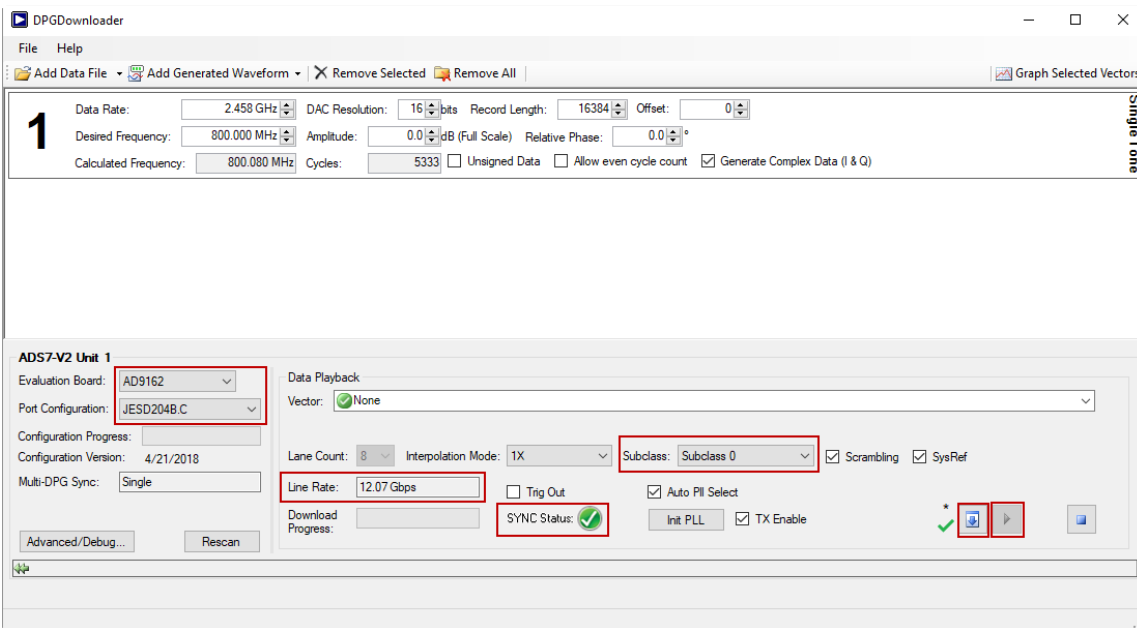
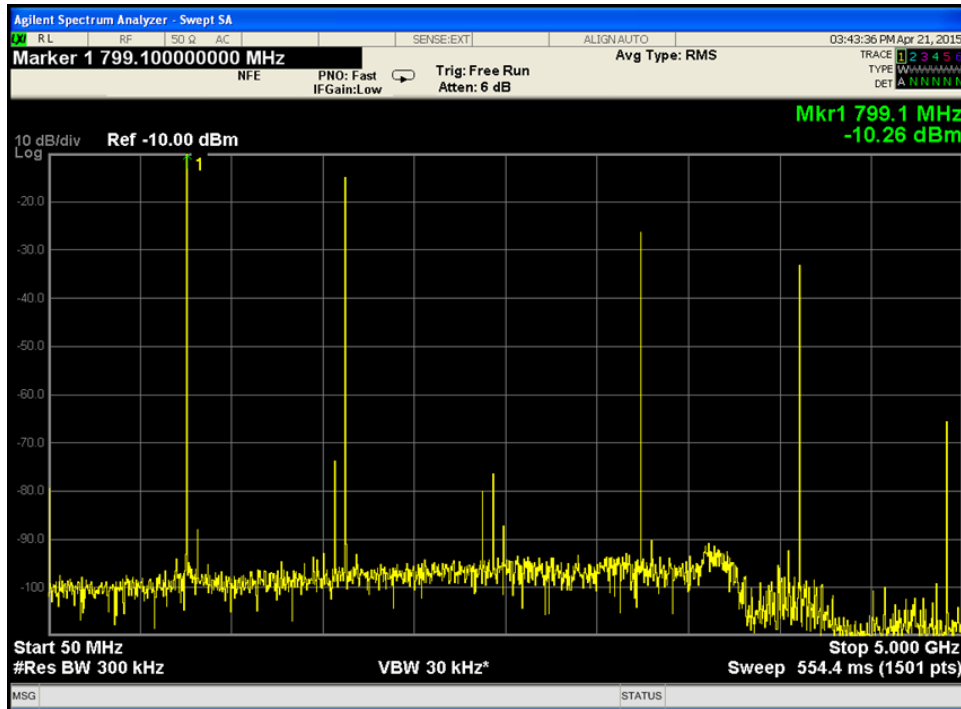

Figure 13. Download Single Tone and Play
Figure 14. Spectrum Analyzer Plot of DAC Output in JESD204B 8-Lane, 1x Mode, Showing Single Tone at 800 MHz
4. Report the line rate frequency from the AD9161, AD9162, AD9163, or AD9164 in the *DPGDownloader* as 12.07 Gbps, as shown in Figure 13. **SYNC Status** shows as a green check mark. An 800 MHz single tone appears on the spectrum analyzer, as shown in Figure 14.